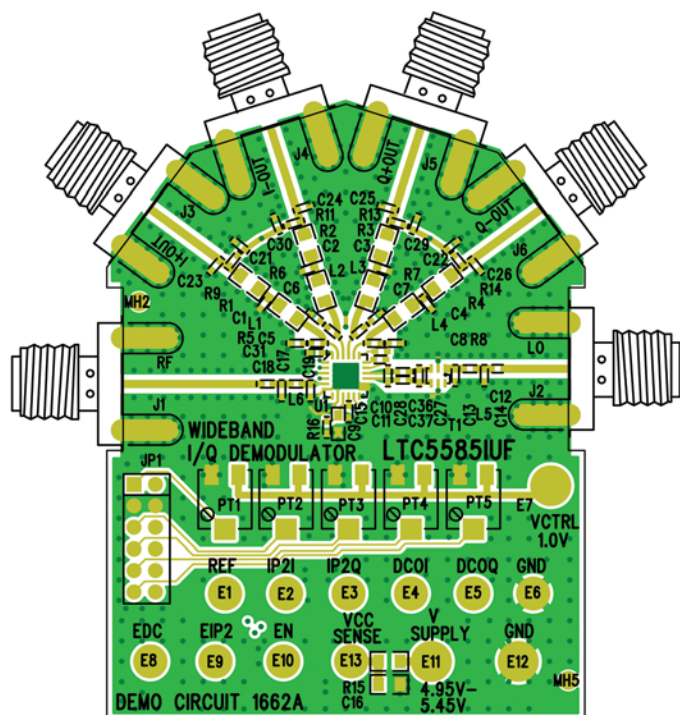

Figure 2. Component Side of Evaluation Board
**GND (Pins 6, 8, 13, 14, Exposed Pad Pin 25):** Ground. These pins must be soldered to the RF ground plane on the circuit board. The backside exposed pad ground connection should have a low inductance connection and good thermal contact to the printed circuit board ground plane using many through-hole vias. See Figures 2 and 3.